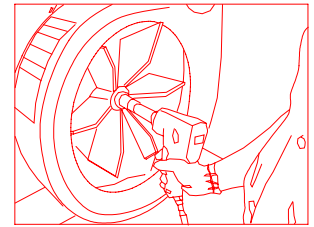

Fig. 6
2. Disconnect the negative battery cable (black) (item 12) from the battery.
5. Remove the intake housing assembly (item 33) using 9/16" socket and socket wrench to remove (12) locknuts (item 47). Be careful to place intake assembly to the side without putting excess strain on safety switch wire harness
6. Remove impeller bolt and lock washer using 5/8" socket and impact wrench (see fig. 6).